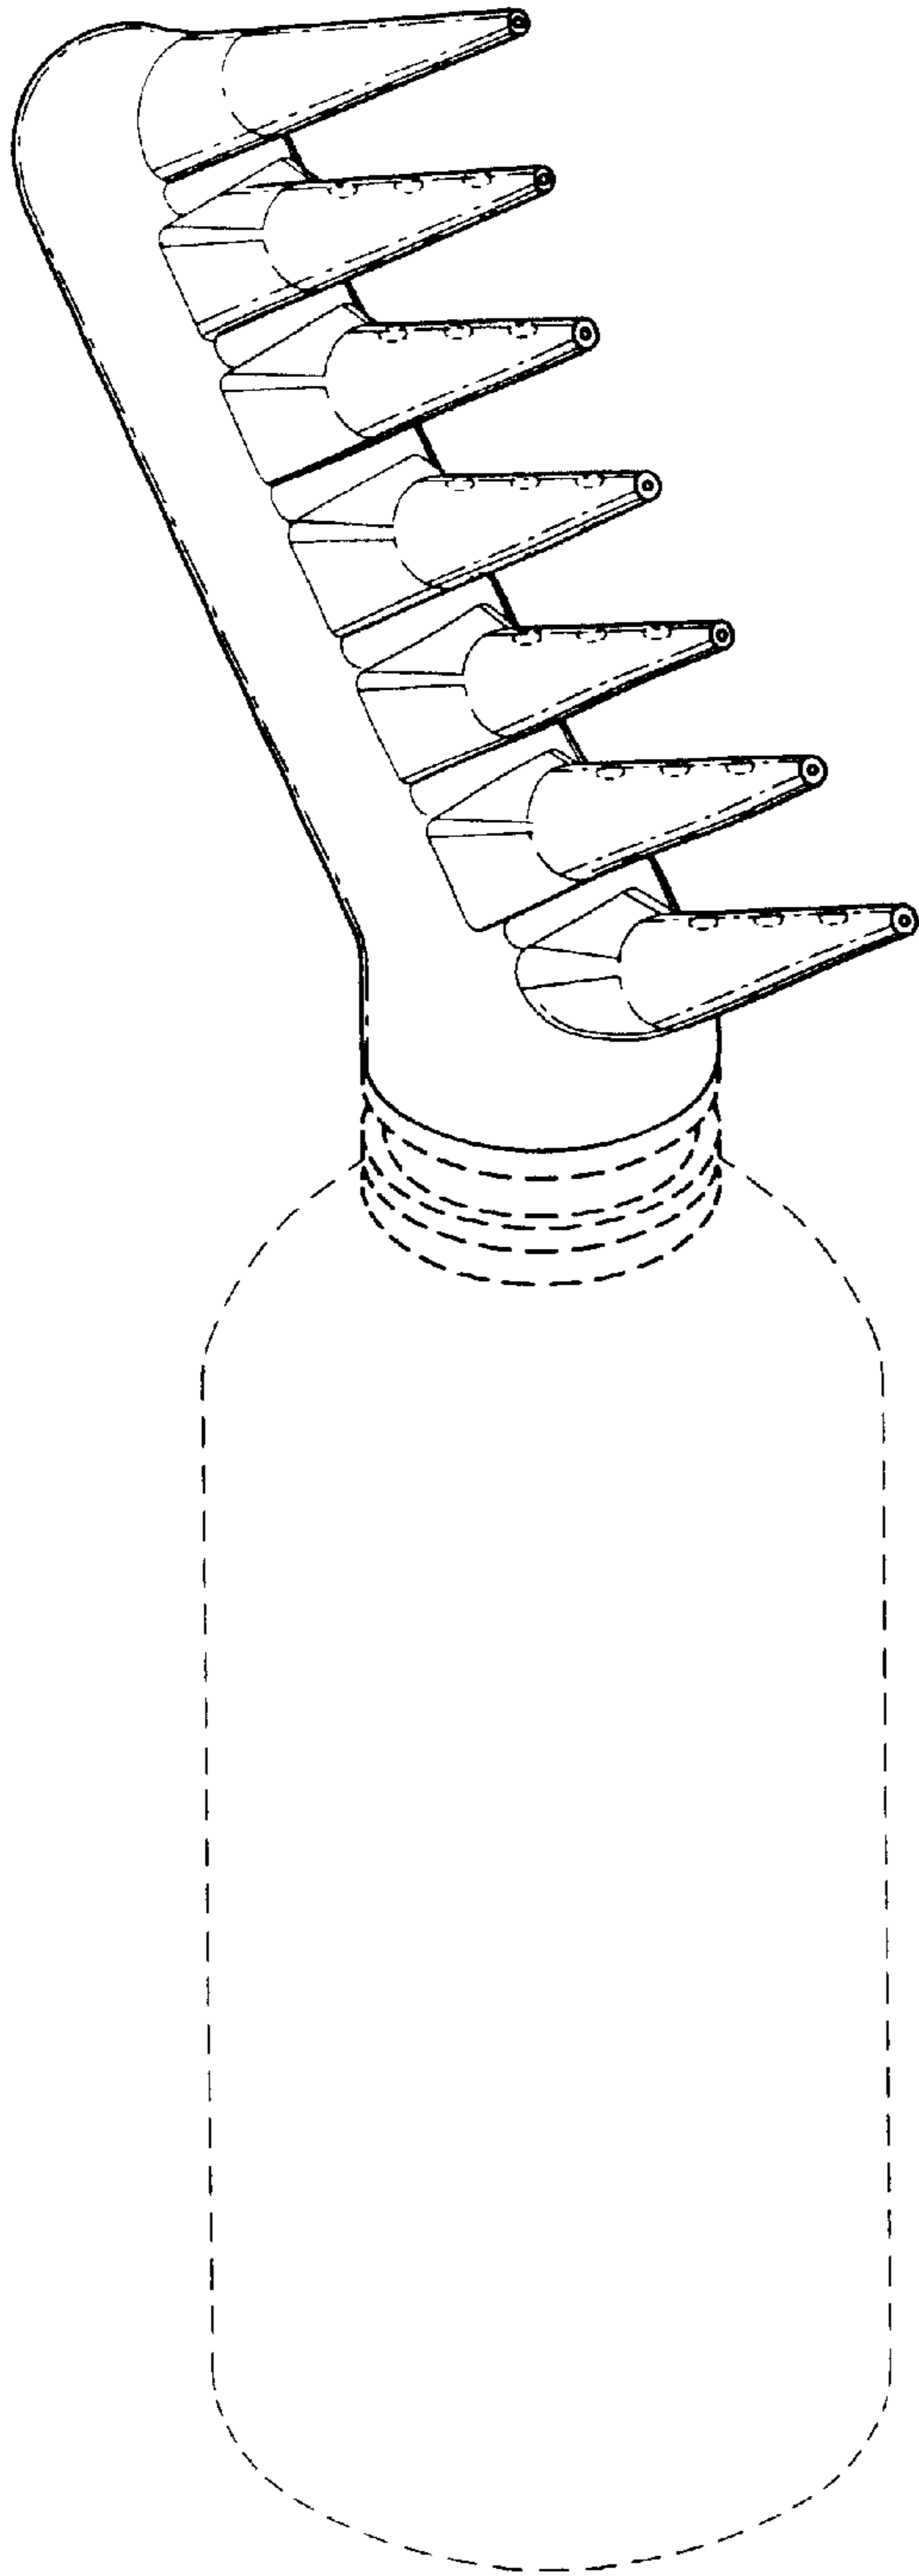
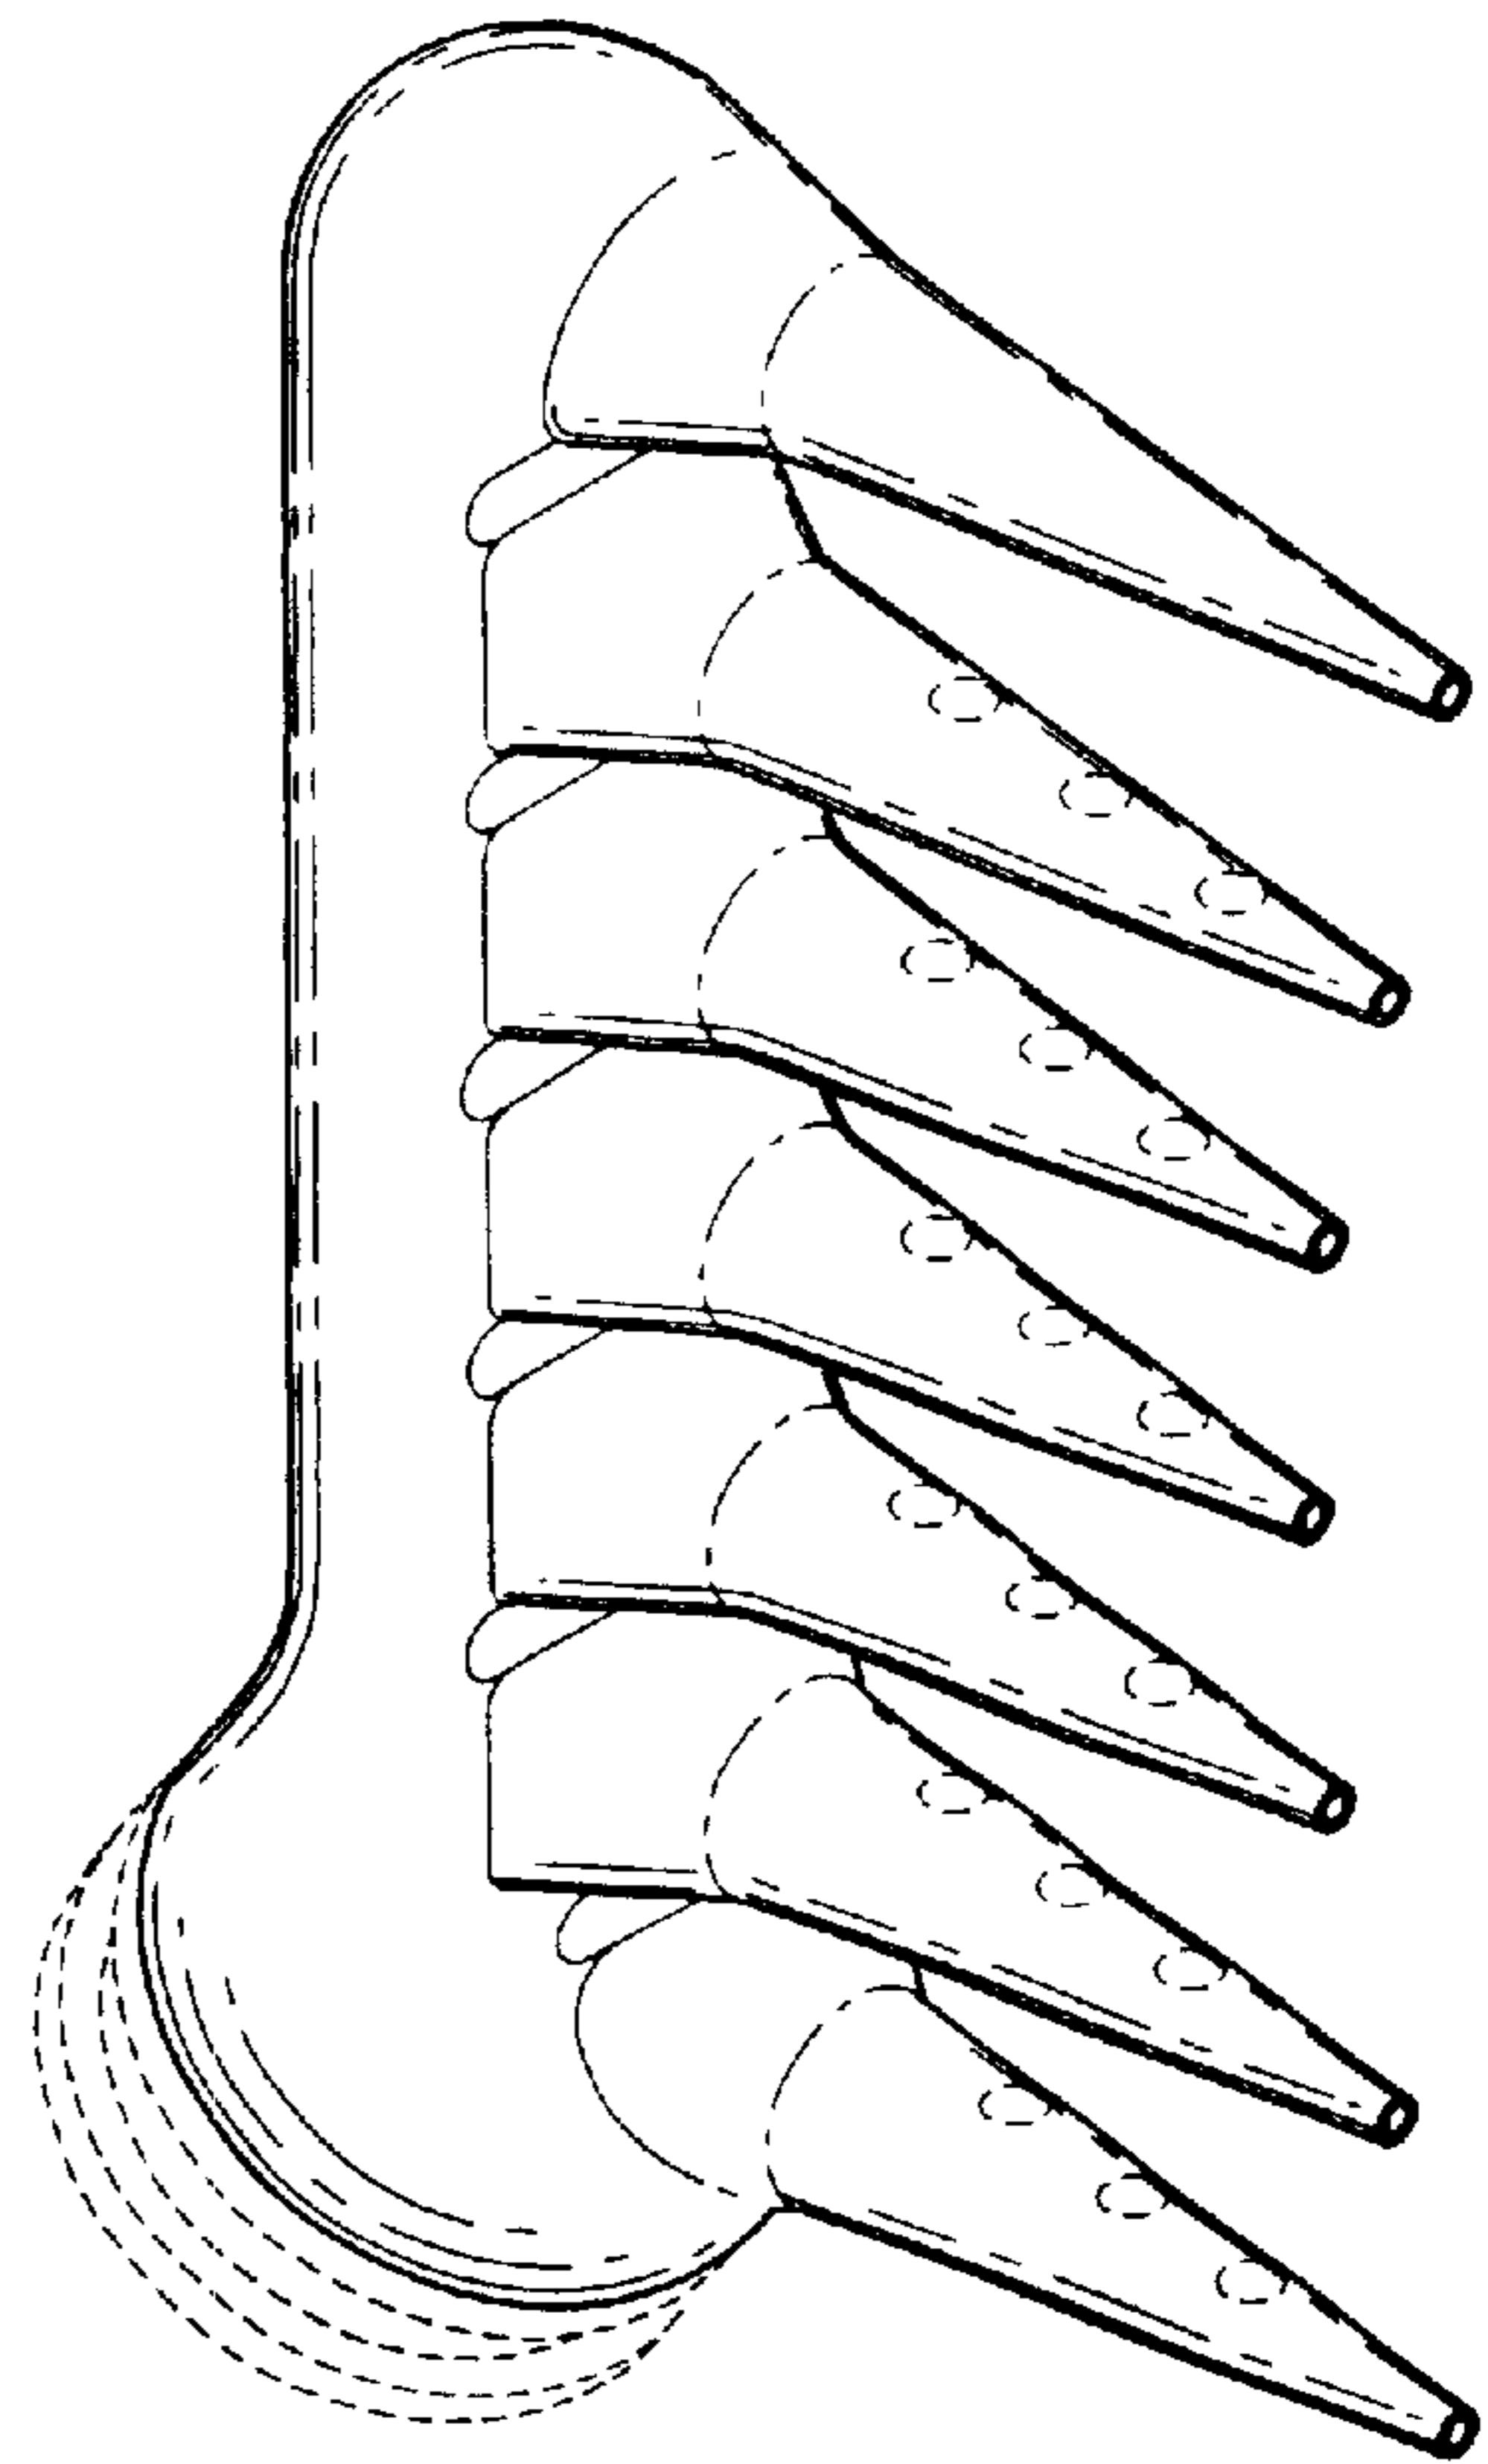

FIG. 1
FIG. 2
- FIG. 1 is a top, front, right side perspective view of a hair color applicator showing our new design;
- FIG. 2 is a top, front, right side perspective view of the hair color applicator of FIG. 1 at a different angle;
The broken lines showing a container in FIGS. 1, 8, 15, 22 and 29 are for purposes of showing environmental structure only and do not form part of the claimed design. The broken lines showing holes along the teeth of the hair color applicator and the broken lines showing threads in FIGS. 1 through 35 are for illustrative purposes only and do not form part of the claimed design.